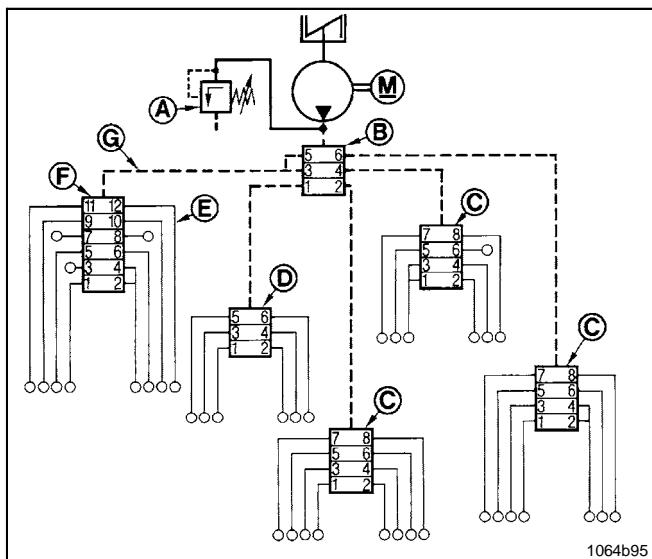

Fig. 44 Example of a lubrication system
- Loosen all main line connections (pos. G) one after the other from the main metering device (B, Fig. 44) leading to the secondary metering devices. If f. ex. grease or oil emerges under pressure from outlet 1 of main metering device (pos. B), the blockage will be found in the lubrication circuit of the secondary metering device (pos. D).